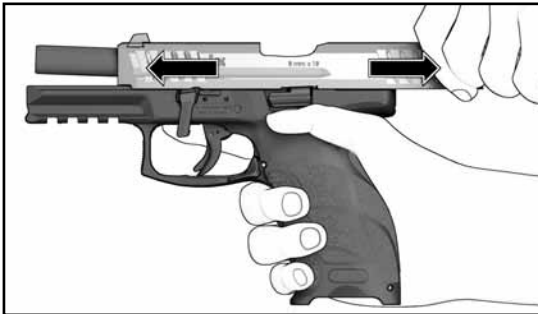

Figure 15 – Removing slide from frame by pushing it forward
3. Push the slide forward, removing the slide from the top of the frame (see Figure 15).